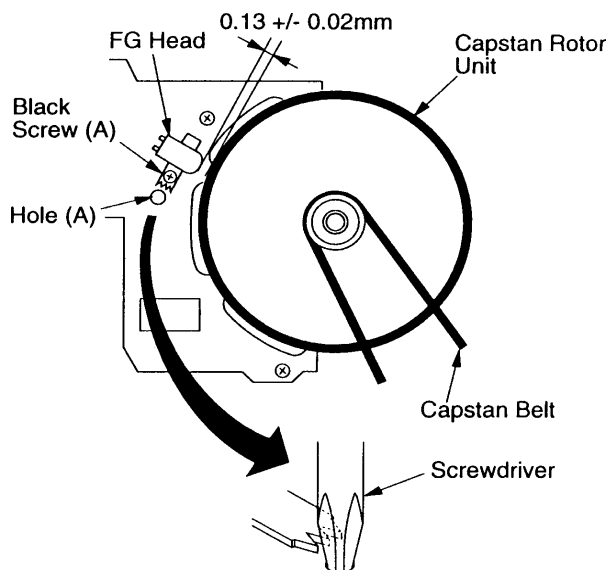

Fig. 8 - FG Head Gap Adjustment
MECHANICAL ADJUSTMENTS (Continued)**FG Head Gap Adjustment (Fig. 8)***Adjustment Procedure*
2. From the bottom side of the chassis, slightly loosen the black screw (A) and insert a number 1 or number 2 phillips screwdriver into hole (A) as shown in Fig.8.
4. Tighten the black screw (A).